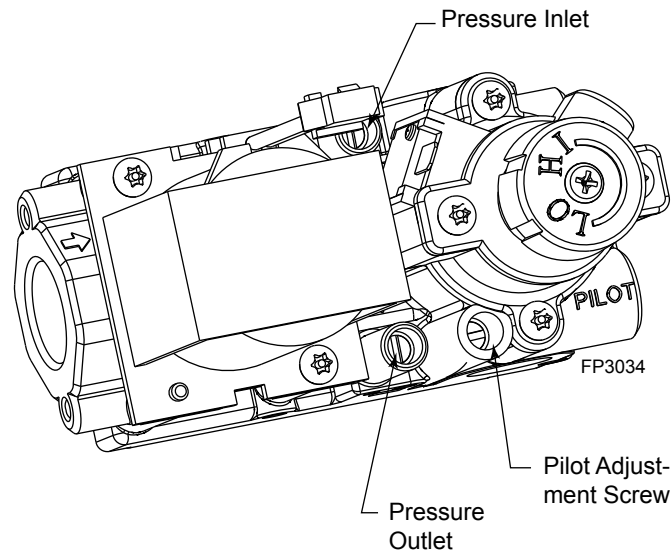

Figure 13 – IPI Valve
4. To check gas pressures at valve, turn captured screw counter clockwise 2 or 3 turns and then place tubing to pressure gauge over test point. Turn unit to high. *Figure 13.* After taking pressure reading, be sure and turn captured screw clockwise firmly to reseal. Do not over torque. Check test points for gas leaks.